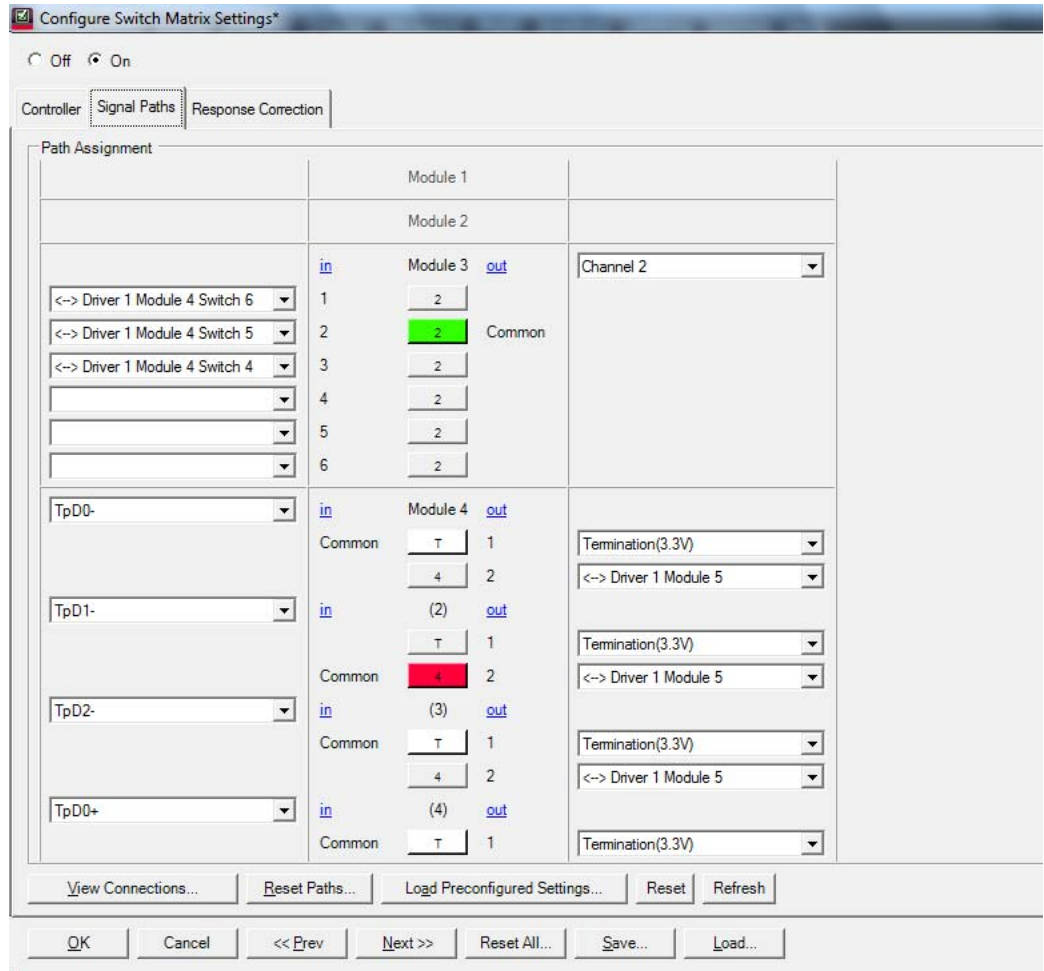

Figure 32 Switch definition showing module 3 and part of module 4 configuration
- 10 Select the Signal Paths tab, then use **Figure 32** as an example when setting up your switch matrix. Before you begin setting the switches, read these helpful tips: